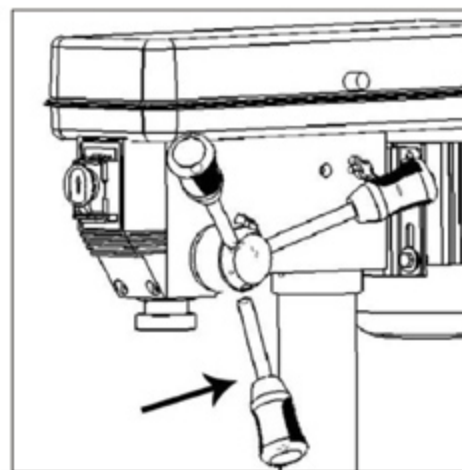

Figure 8
- 6.2. Screw the feed handles into the threaded holes in the hub. Tighten. **See Figure 8**